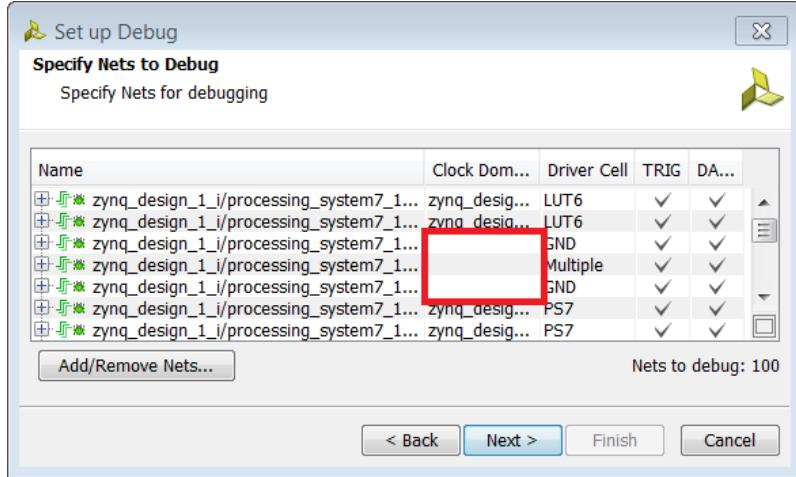

Figure 33: Setup Debug
3. On the second panel of the wizard, notice that some of the nets in the table do not belong to a clock domain (Figure 33).